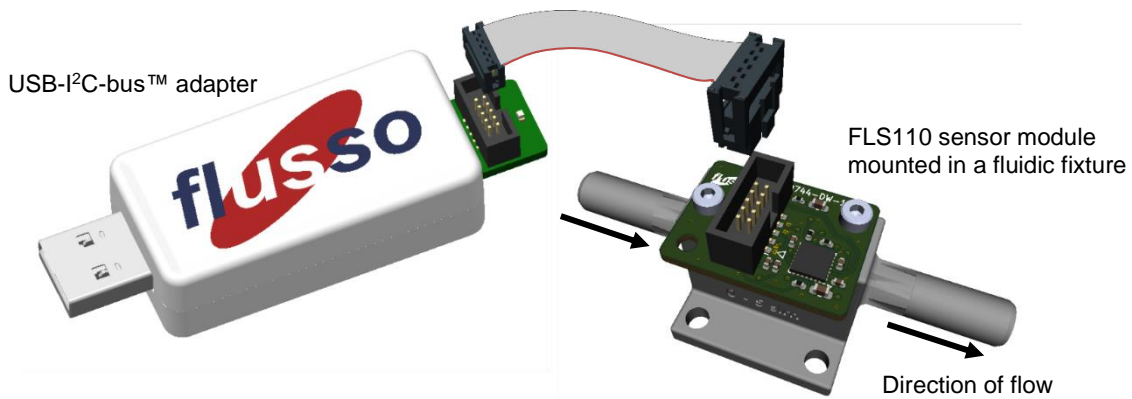

Figure 1: FLS110 Evaluation Kit hardware
1. Connect up the hardware (Figure 1) and plug the USB-I²C adapter into a USB port on your computer
Referring to Figure 1:
2. Connect the fluidic fixture to your flow or differential pressure (DP) source. Make sure the direction of flow is in the direction of the arrows on the sensor module PCB and fluidic fixture.
3. Connect the sensor module to the USB-I²C adapter using the ribbon cable provided (note the position of the connector keys and red "pin 1" wire in the ribbon cable in Figure 1).